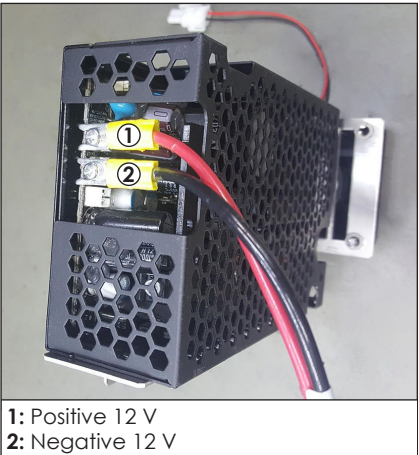

Figure 56: Remove Terminal Connectors
8. Hold the power supply in place and use a Phillips screwdriver to loosen the terminal screws. Remove the terminal connectors and take note of the positive and negative connections. Refer to **Figure 56**.